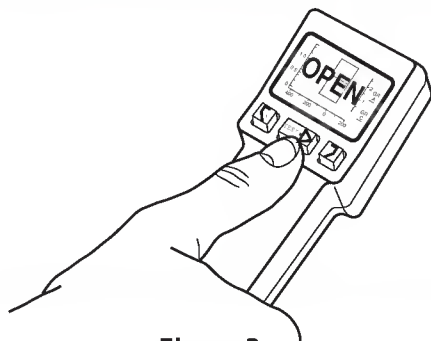

Figure 3
3. Turn on the MicroTympanometer 2 Handle by pressing the TEST  button below the Liquid Crystal Display (LCD). The word "OPEN" appears on the LCD. **Figure 3** illustrates the TEST  button and the OPEN message.